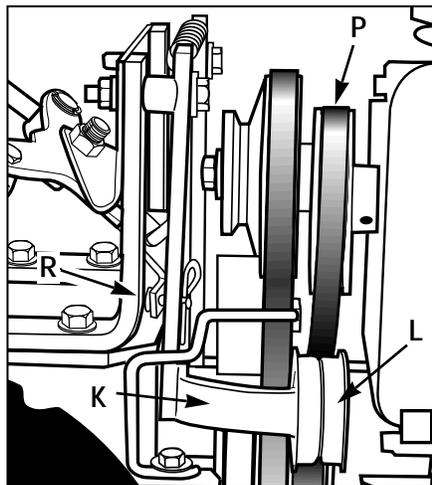
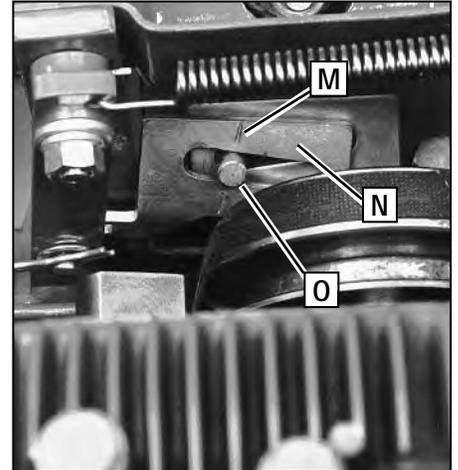

Figure 5-13
Figure 5-14: While pushing reverse idler arm inward, stand at engine end and check position of guide mark (M) and guide pin (O).
2. Stand at the front of the tiller and use your left hand to push the reverse idler arm (K, Figure 5-13) inward as far as possible (the reverse idler pulley [L] is attached to the reverse idler arm). Hold the idler arm in this position and look at the position of the belt tension guide mark (M, Figure 5-14) that is stamped into the face of the reverse adjustable link (N, Figure 5-14).
- The belt tension is correct if the guide mark (M, Figure 5-14) is anywhere to the left of the guide pin (O), as viewed from the front of the unit (not the operator's position). If the belt tension is correct, reinstall the belt cover and secure it with the two nuts.
3. The reverse idler pulley (L, Figure 5-13) regulates the tension that is applied to the reverse drive belt (P). The following adjustment will allow the reverse idler pulley to apply more tension to a loose belt.
5. Slip the reverse belt (P, Figure 5-13) off the engine driven reverse (upper) pulley.
6. On the **right** side of the unit (as viewed from operator's position) remove the hairpin cotter from the clevis pin (R, Figure 5-13) that connects the reverse idler arm (K) to the reverse adjustable link. Push inward on the reverse idler arm (K) and remove the clevis pin (R).
8. Reinstall the reverse belt (P, Figure 5-13) on the reverse (upper) pulley, making sure the belt is located to the inside of the reverse idler pulley (L, Figure 5-13).